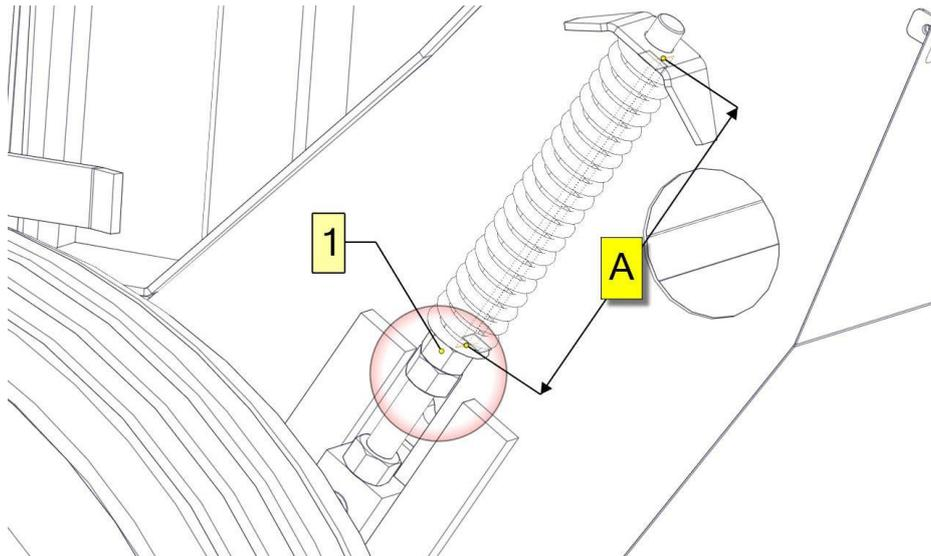

Figure 18. Adjusting the tension of the chain and rod conveyor set of the Z587 baler
- Loosen the jam nut for the nut (1);
- Use the nut (1) to adjust the chain tension. Length "A" (between a lower washer and a bracket) should be 225 mm (**Fig. 18**);